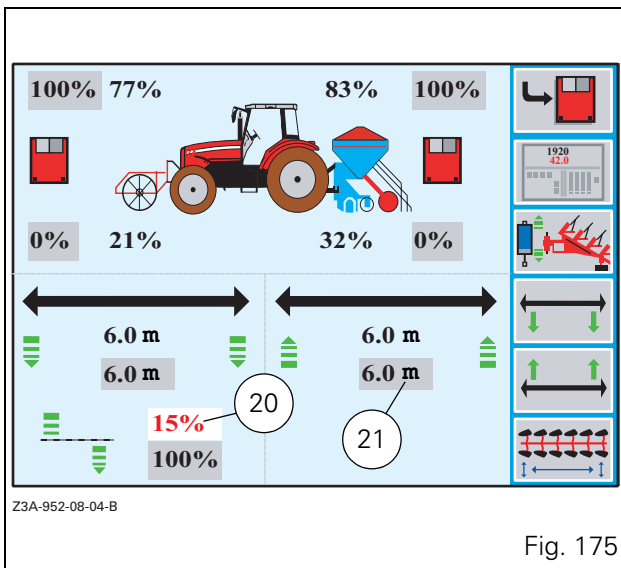
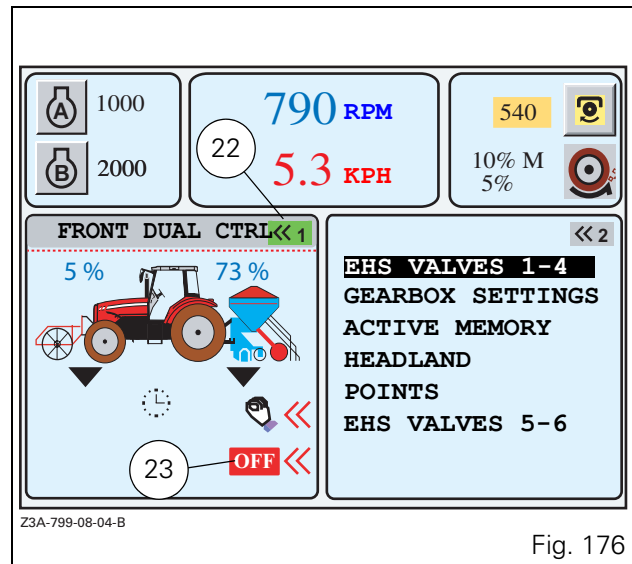
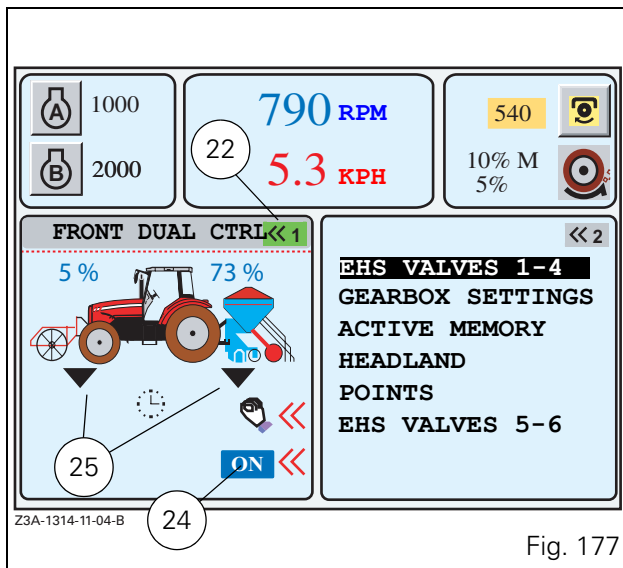

Fig. 175
Fig. 176
Fig. 177
- When the window (Fig. 173) is open, press the key \llcorner_4 . The furrow start length is displayed in red. If this value is suitable, validate by pressing the encoder. The front linkage extra-lowering value (20 Fig. 175) is displayed in red.
- Press the key <<5 when the window (Fig. 175) is open. The furrow end length is displayed in red (21 Fig. 175).
To activate or deactivate this function, press the key <<6 when the window (Fig. 175) is open.
- For this, press the key <<2 when the window (Fig. 175) is open. The window (Fig. 176) is displayed.
- Press the key <<6 when the icon (22 Fig. 176) is green (if this is not the case, first press the key <<1 so the icon (22 Fig. 176) is displayed in green. The DUAL CONTROL function is then active and the symbol (23 Fig. 176) changes from OFF to ON (24 Fig. 177).
NOTE: On b/w screens, the active window is indicated by the icon (22 Fig. 176) in reverse video.
During use, a symbol is displayed under each linkage to indicate their control position (e.g. 25 Fig. 177).
To return to the window (Fig. 175), press the key \ll_5 when the window (Fig. 177) is open and the icon (22 Fig. 177) is green or in reverse video on b/w screens.